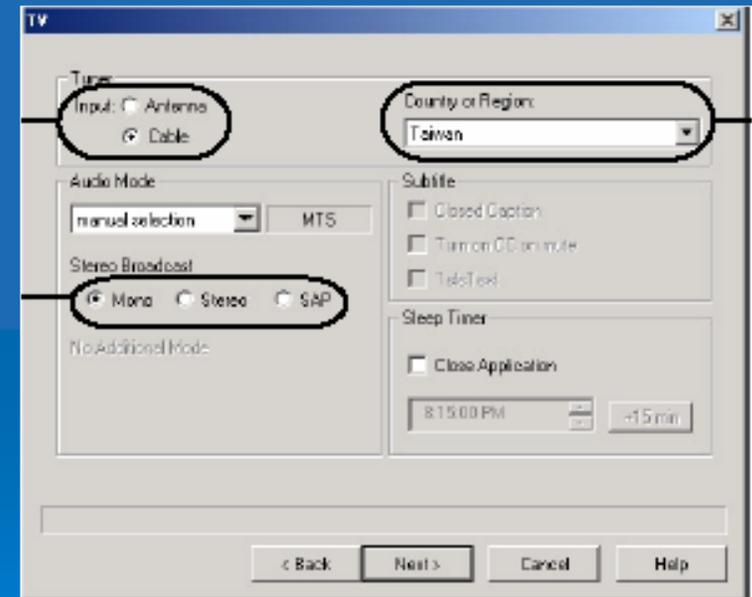

Fig 46-a
- Also input should be set to antenna or cable depending on your setup. (Fig 46-a)